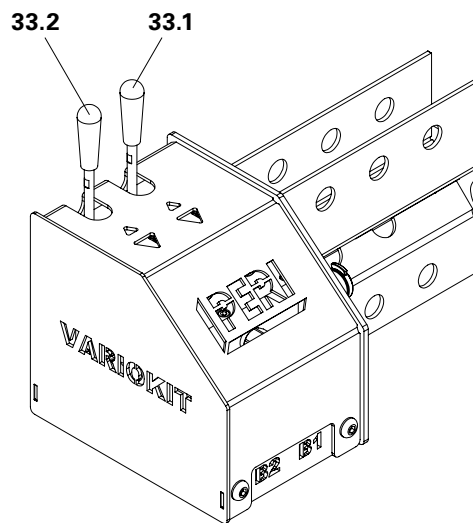

Fig. A4.01
- (Fig. A4.01 + A4.02 + A4.03)